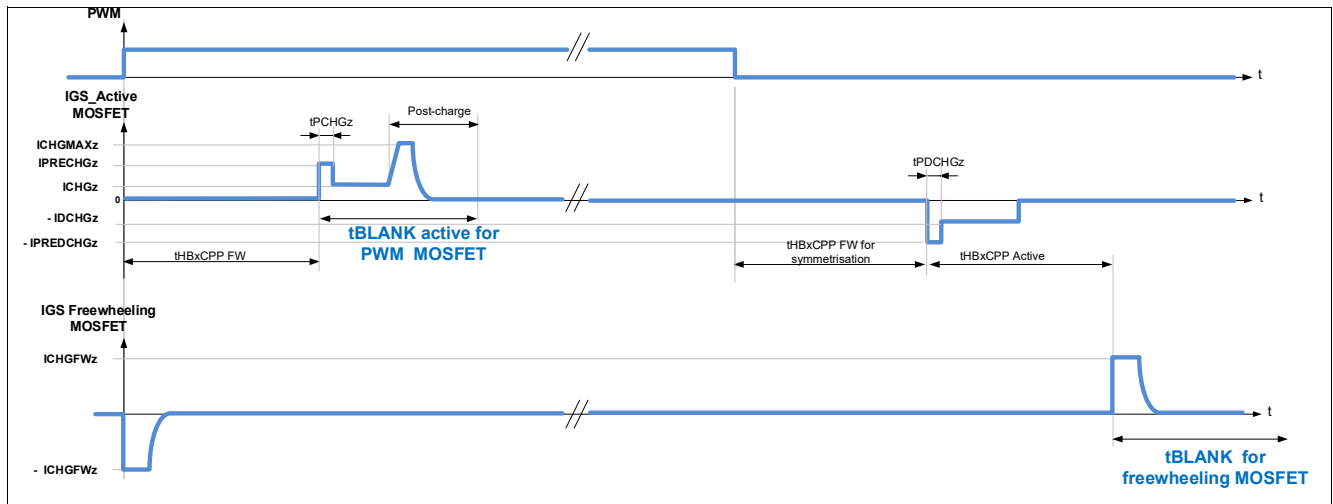
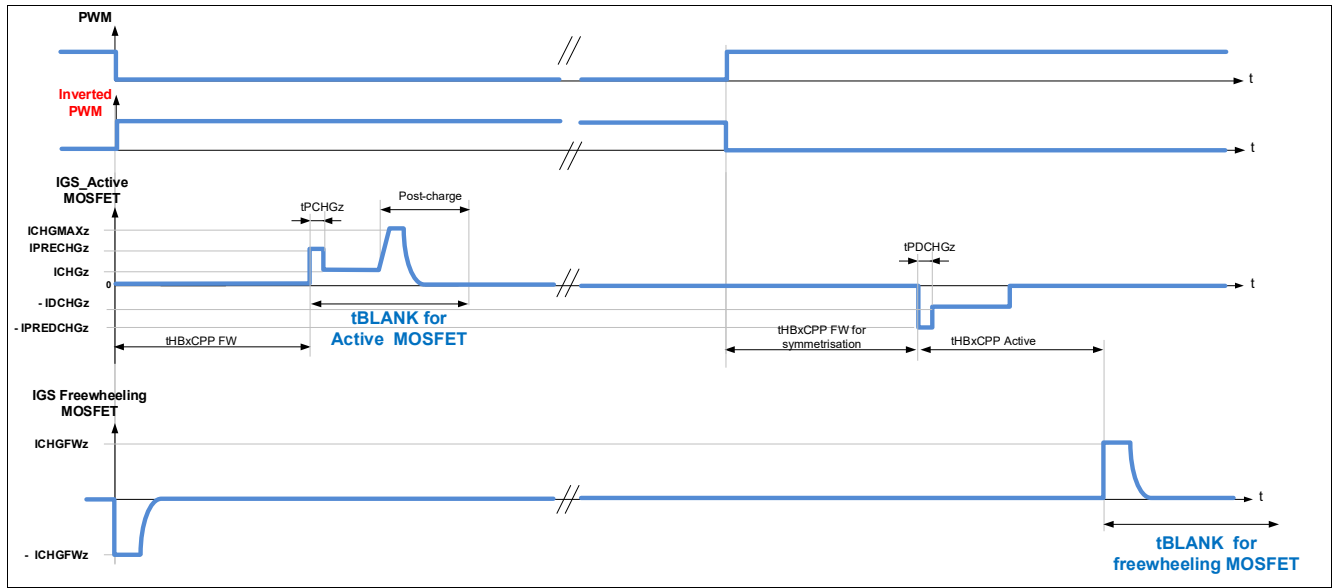

Figure 34 Blank time for half-bridges in PWM operation, detection of generator mode enabled ($EN_GEN_CHECK = 1$), motor operating as load
Figure 35 Blank time for half-bridges in PWM operation, detection of generator mode enabled (EN_GEN_CHECK = 1), motor operating as generator
- The blank time of the Active MOSFET starts at the expiration of the cross-current protection time of the FW MOSFET ($t_{HBxCPP FW}$). Refer to **Figure 34** and **Figure 35**.
- The blank time of the FW MOSFET starts after expiration of the cross-current protection time at turn-off of the Active MOSFET ($t_{HBxCPP Active}$). Refer to **Figure 34** and **Figure 35**.